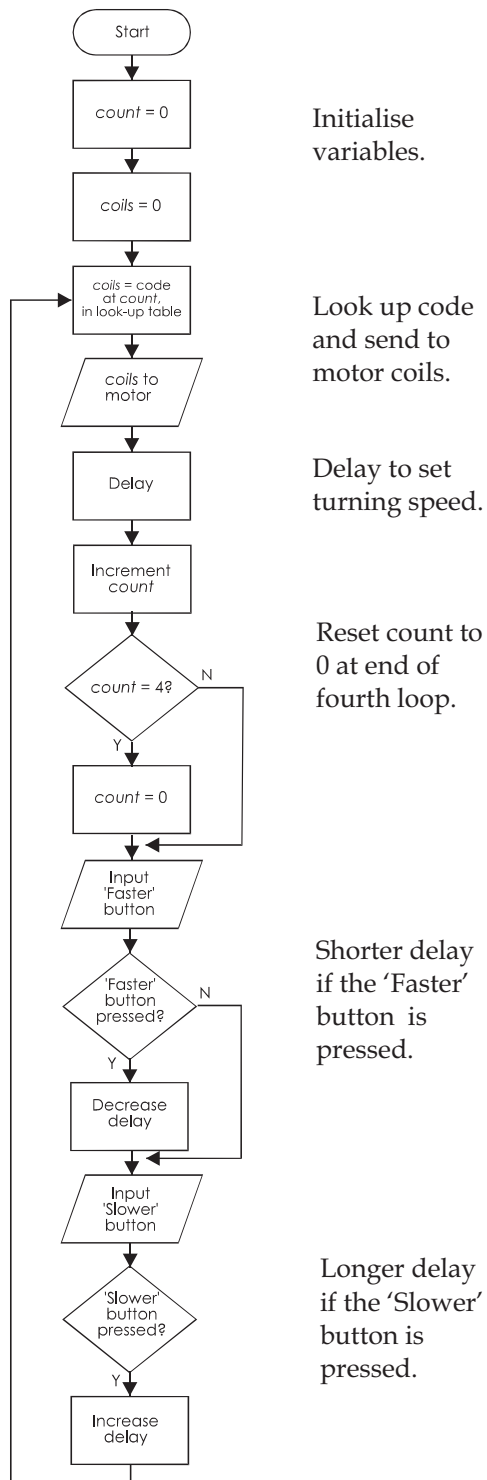

FIGURE 38.21 A routine to control the speed of a stepper motor by using two buttons.
17) **Stepper motor control** uses a look-up table which holds the codes for energising the coils (see ‘Rotational Speed Controls’, Topic 33). The flowchart shown in Figure 38.21 consists of a loop in which the count repeatedly runs from 0 to 3. At each stage the appropriate code is looked up in the table and sent to the coils of the motor (using four transistor switches).